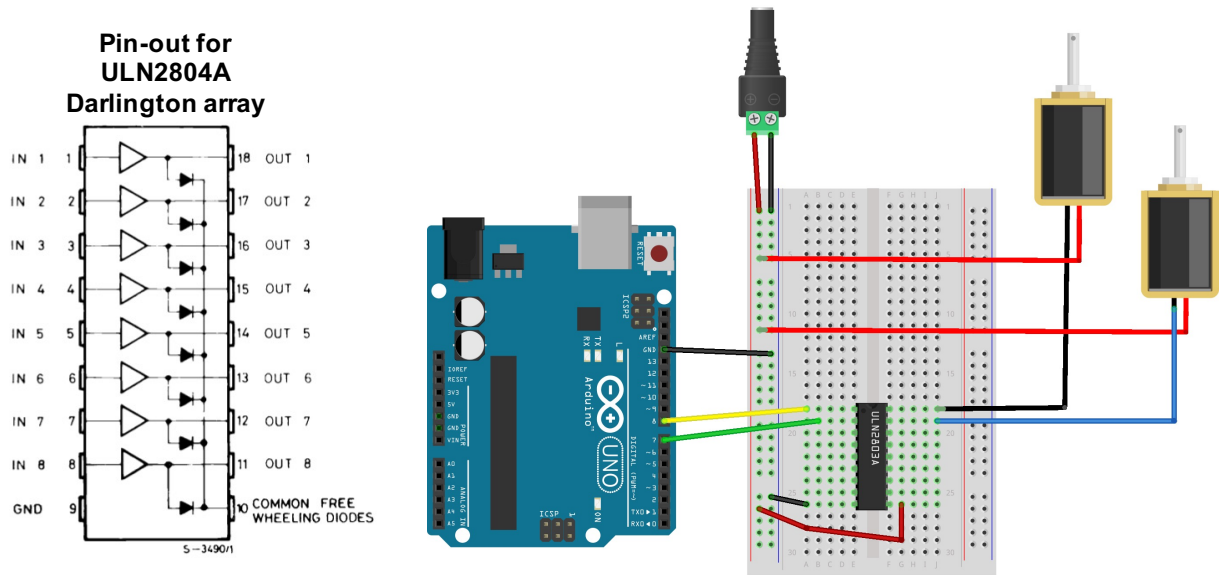

Figure 2 – (Left) The pinout for the ULN2804A Darlington array, which is used in the circuit (Right) to drive the solenoid linear actuators.
1. Use the breadboard to construct the circuit shown in Fig. 2. Make the following connections: